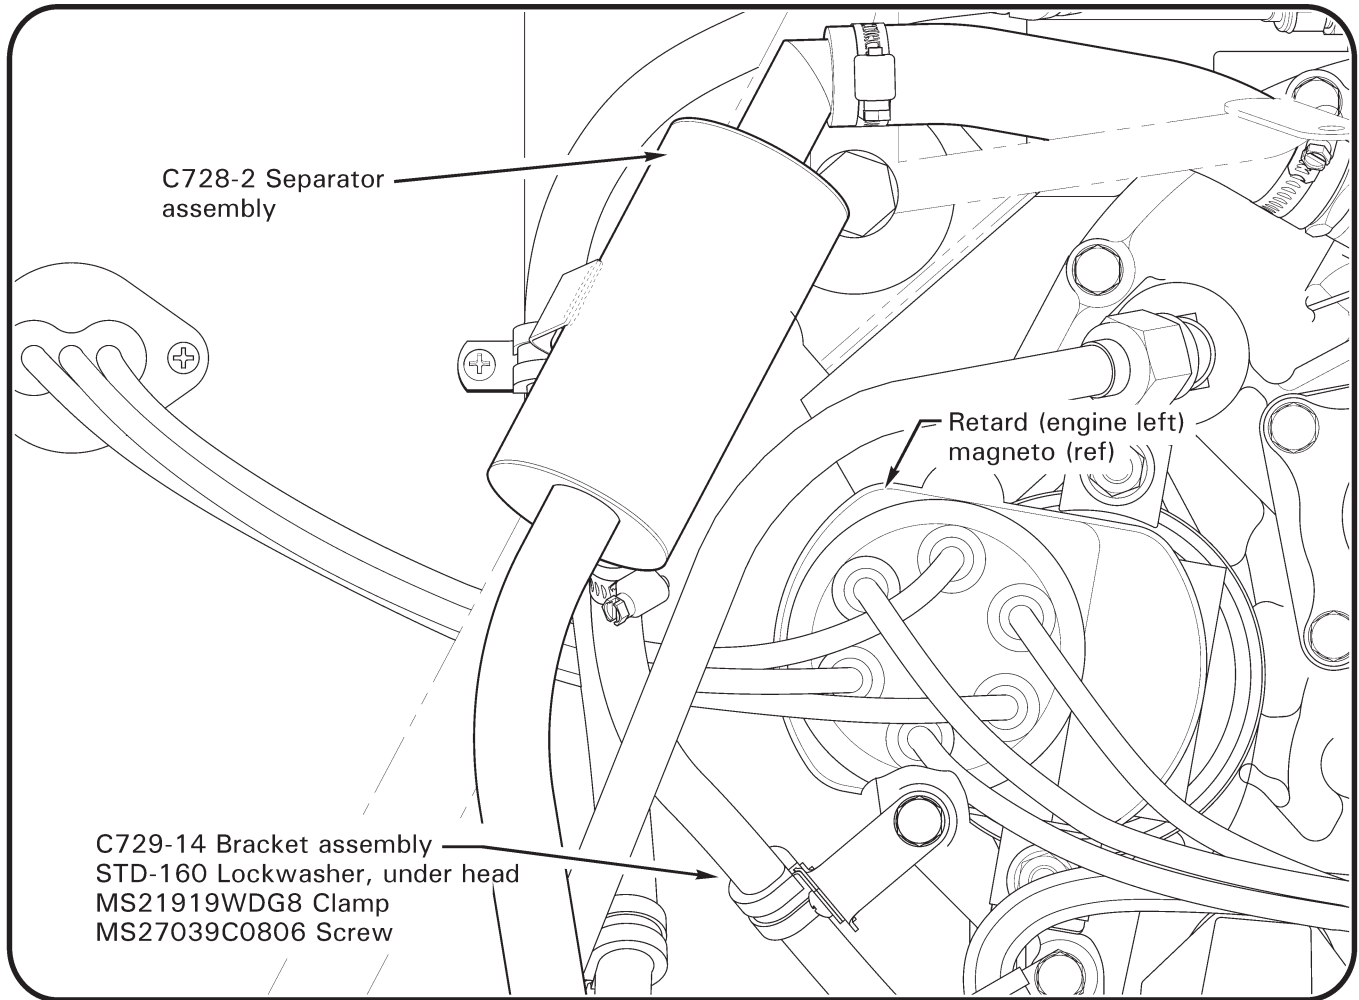

FIGURE 3 Installation of C729-14 bracket
8. Refer to Figure 3. Locate aft-pointing bolt in accessory housing, immediately above & outboard of lower mounting stud for retard (engine-left) magneto. Remove bolt and discard washer. Install new STD-160 lock washer under bolt head. Position C729-14 bracket against accessory housing with nutplate tab pointing aft, and lightly clamp bracket to accessory housing using bolt & lock washer.